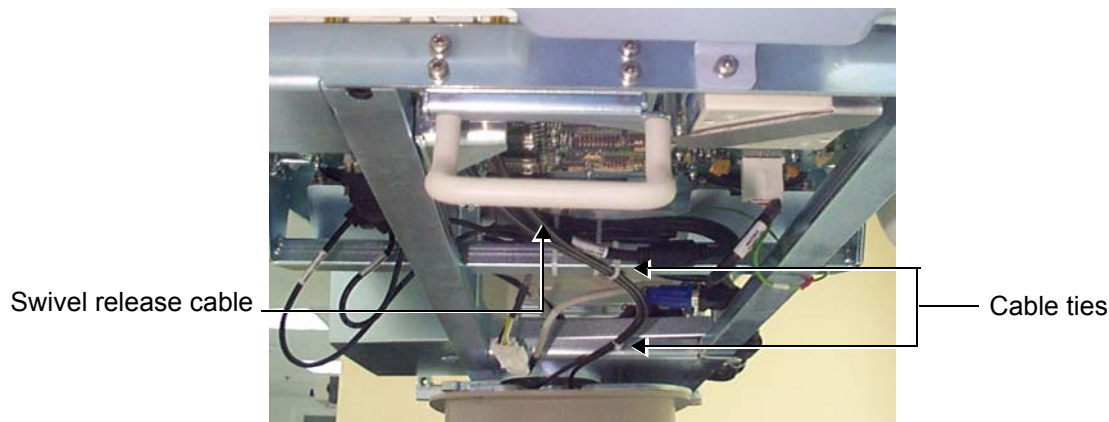

Figure 8-81 Cable Fastened with Cable Ties
- 8) Fasten the cables to the machine with cable ties (at the original positions - see Figure 8-81 below).